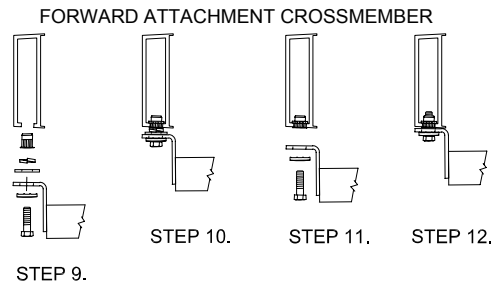

FIGURE 6.
10. TO INSTALL RIVET NUT IN CROSSMEMBER, HOLD HITCH TIGHT AGAINST CROSSMEMBER WHILE TIGHTENING THE 1/2-13 HEX BOLT TO 45 LB-FT. (THIS WILL SEAT THE RIVET NUT - SEE FIGURE 6)